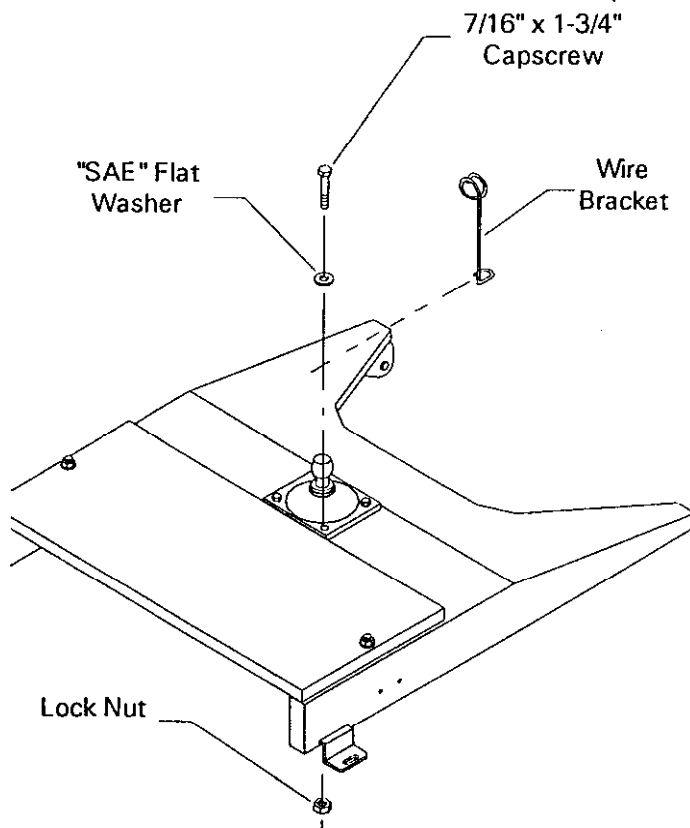

Figure 7
8. Attach the Bracket-Wire (92-4544) with 7/16" x 1-3/4" cap screw, "SAE" flat washer and lock nut from loose parts bag. (See Fig. 7)